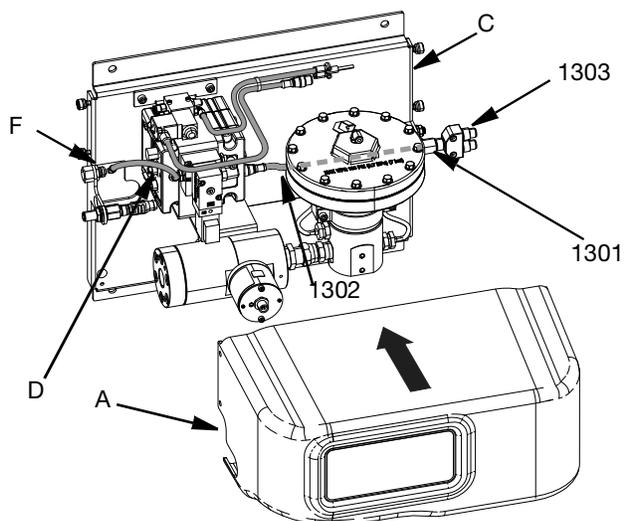

FIG. 9
5. Insert the regulator air line (D) into the incoming air elbow fitting (F).
6. Install the M12 thru connector (1301) into the PCF fluid mounting plate (C).
8. Reinstall the PCF cover (A). See FIG. 9 page 11.